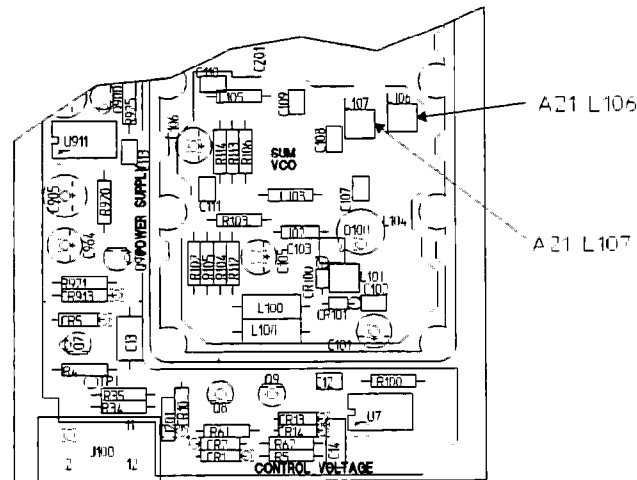
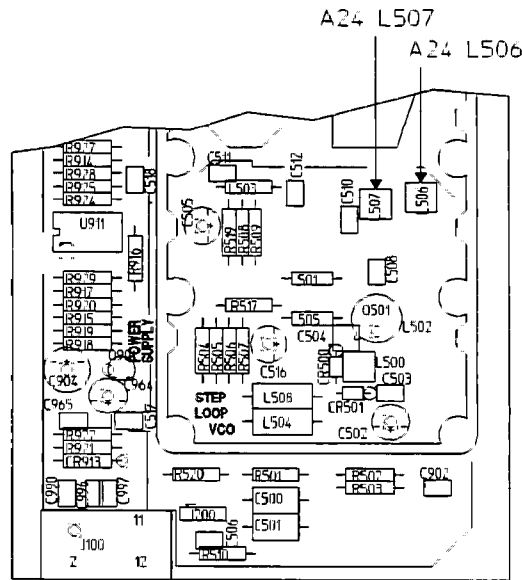

Figure 1-5. A21 Sum VCO Component Locator
Figure 1-6. A24 Step VCO Component Locator
6. Through the holes in the shield can, alternately adjust A21 L106 and L107 (see figure 1-5) for a flatness (maximum amplitude minus minimum amplitude) of less than 3 dB(p-p). During this adjustment, periodically clear the spectrum analyzer's maximum hold function.
d. Set the power switch to ON (I), then press the following keys:
e. Through the holes in the shield can, alternately adjust A24 L506 and L507 (see figure 1-6) for a flatness (maximum amplitude minus minimum amplitude) of less than 3 dB(p-p).
If PRETUNE SLOPE cannot be adjusted for 306 ± 0.5 MHz, adjust either A21 L101 (see figure 1-5) or A24 L500 (see figure 1-6). Adjusting A21 L101 clockwise or A24 L500 counterclockwise reduces the frequency.